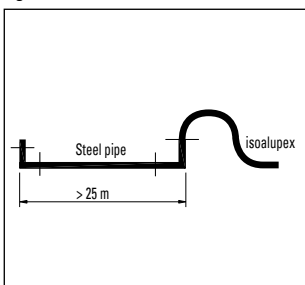

fig. 5
- When connecting isoalupex to steel pipes > 25 m, follow the rules shown in fig. 5.